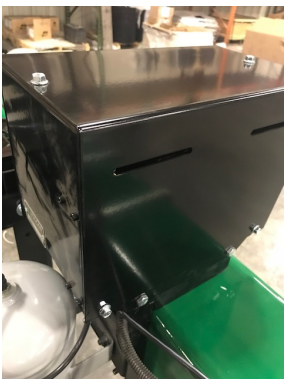

Fig 1
- 1: Loosen 4 lower capscrews and remove top 2 see figure 1